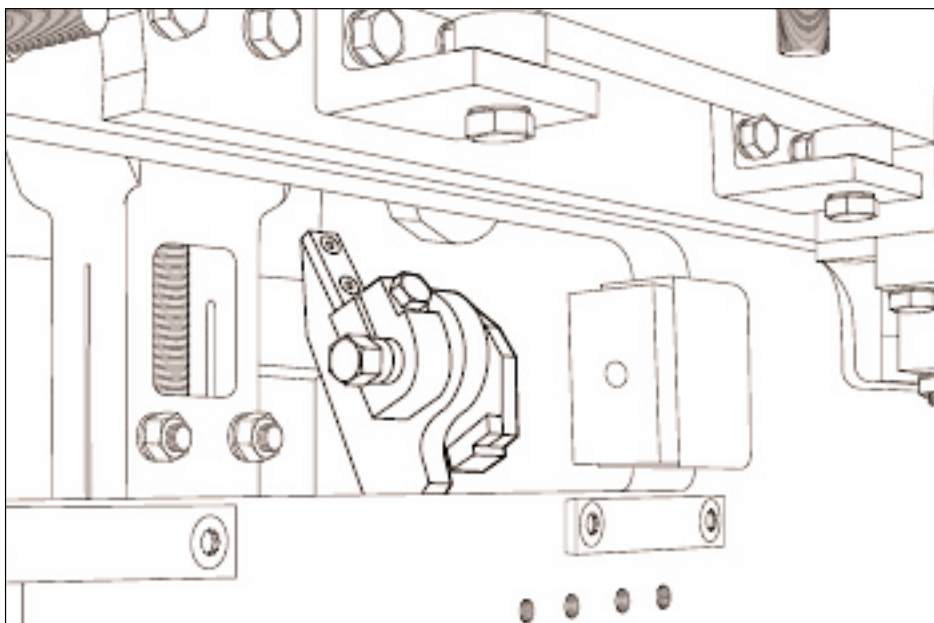

Figure 5.6 MOLD LOCKS IN OPEN POSITION (LEFT LOCK SHOWN).
5.3.25 Open mold locks (left and right) as shown in figure 5.6.